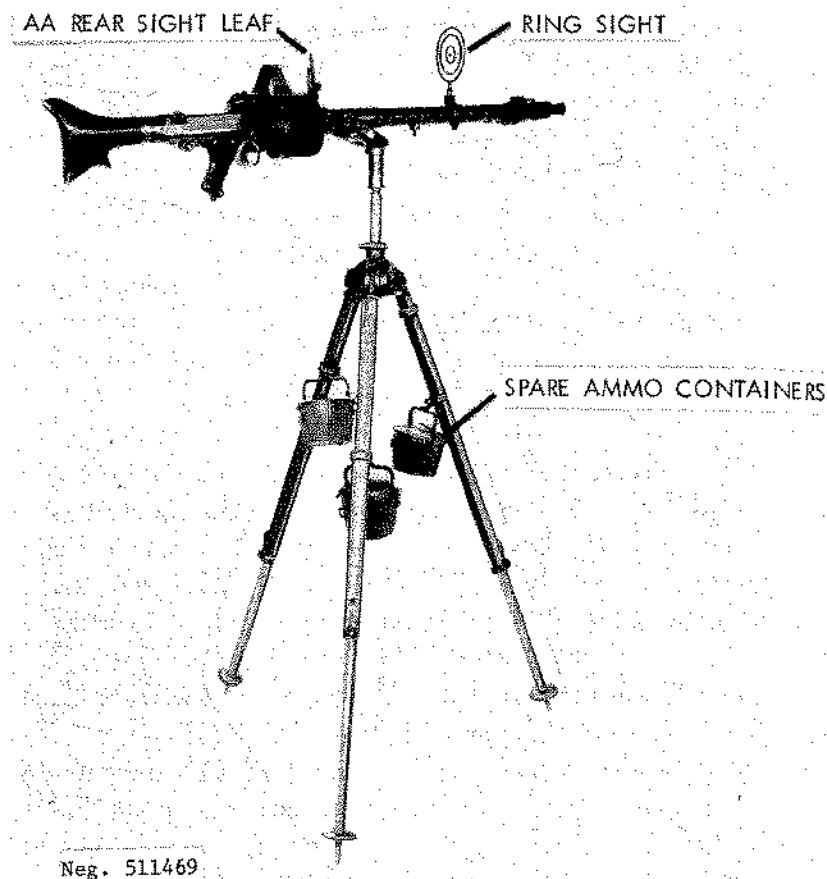

Figure 170. MG34 on AA tripod.
b. The antiaircraft tripod is used, as its name implies, for antiaircraft fire. To use, spread its legs, lift the rear sight of the MG34, and invert the gun. Set the inverted gun on the tripod so that its rear mount adapter is aligned with the mount of the tripod. Twist the gun upright and pull out on the lock until the gun is fully seated. Release the lock. If the antiaircraft ring sight is available, insert its stem into the socket on the barrel jacket and twist it until the sight locks into place. Lift the rear antiaircraft sight into position from the rear sight leaf (fig 170).